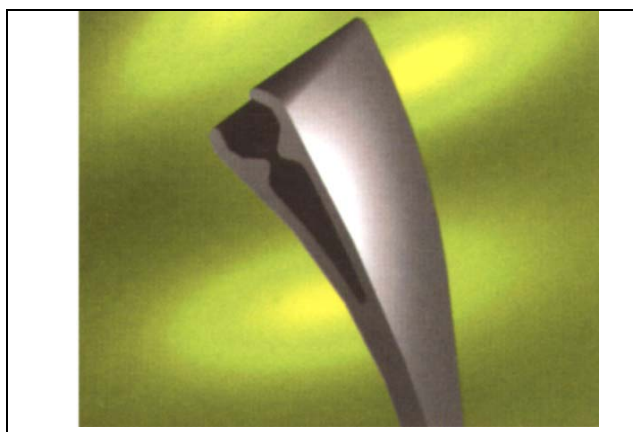

Figure 35 – ADJUSTABLE ALUMINIUM FIN
- ADJUSTABLE ALUMINIUM FINS: these allow the direction of warm air flow to be adjusted horizontally and/or vertically. Each kit (Code O-LTT000) consists of 20 fins (see Figure 35).